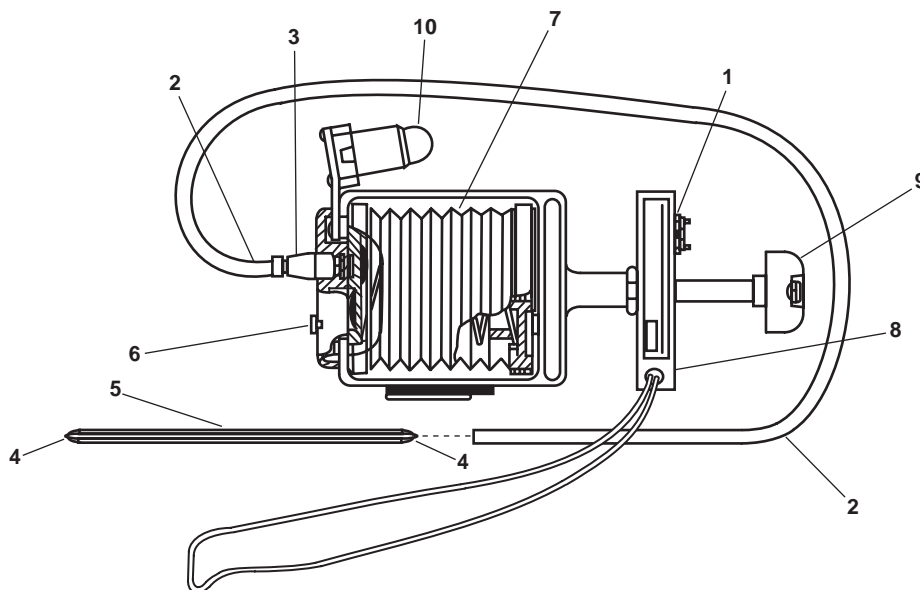

Figure 12. Sampling Pump
- b. Zero the stroke counter (figure 12, item 1).
- c. Install the rubber hose (figure 12, item 2) on the pump by sliding one end of the rubber hose over the tube holder (figure 12, item 3).
- d. Break off both tips (figure 12, item 4) of the detector tube (figure 12, item 5) using the breaker (figure 12, item 6) on the sampling pump (figure 12, item 7).
- e. Install the detector tube (figure 12, item 5) into the rubber hose (figure 12, item 2) with the arrow on the detector tube pointing toward the sampling pump (figure 12, item 7).
- f. Insert the detector tube (figure 12, item 5) into the HF sampling port (figure 2, item 3). Ensure that all of the rubber hose (figure 12, item 2) is inserted into the HF sampling port.
- g. With all four fingers on the handle (figure 12, item 8), fully press the knob (figure 12, item 9) with the palm of the hand until the stroke counter (figure 12, item 1) changes number.
- h. Release the knob (figure 12, item 9).
- i. Verify that the end of stroke indicator (figure 12, item 10) has turned a high visibility yellow. Once the pump has consumed 100 cc of the sample, the end of stroke indicator will return to its black color.
- k. Remove the detector tube (figure 12, item 5) from the HF sampling port (figure 2, item 3).
- n. Remove the detector tube (figure 12, item 5) from the hose (figure 12, item 2).